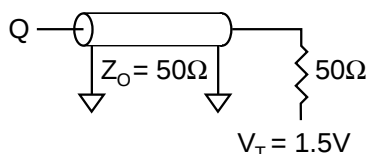
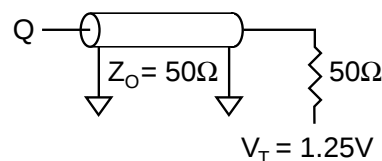

Figure 1
Figure 3
1. Test conditions as specified with the output loading shown in Figure 1 for 3.3V I/O ($V_{DDQ} = +3.3\text{V} +0.3\text{V}/-0.165\text{V}$) and Figure 3 for 2.5V I/O ($V_{DDQ} = +2.5\text{V} +0.4\text{V}/-0.125\text{V}$) unless otherwise noted.
Output load See Figures 1 and 2
Output load See Figures 3 and 4